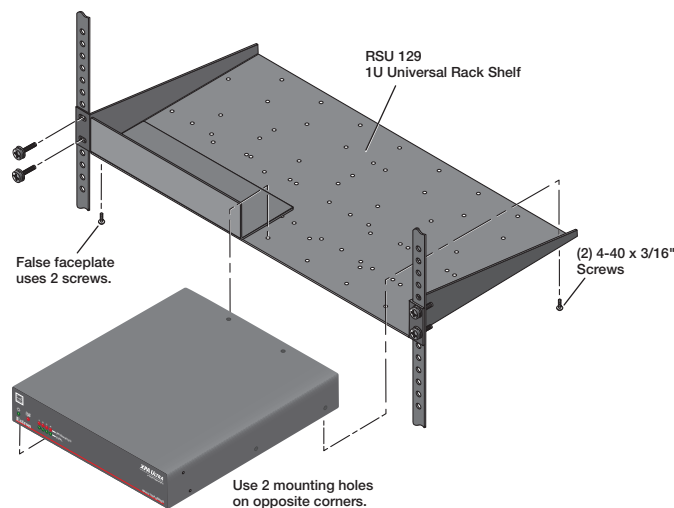

Figure 7. Mounting the Amplifier onto a Rack Shelf
7. Attach the rack shelf to the rack using four 10-32 x 3/4" screws (provided). Insert the screws through #10 beveled washers, then through the holes in the rack (see figure 7).